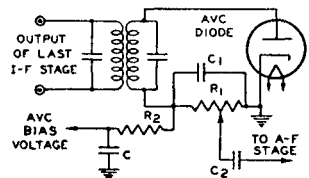
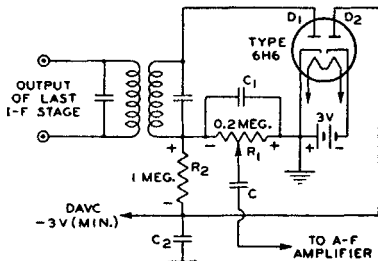
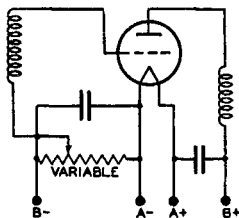
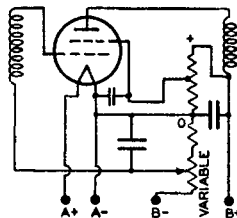

Fig. 41
Fig. 42
Fig. 55
Fig. 57
The avc circuit reduces the r-f and i-f gain for a strong signal usually by increasing the negative bias of the r-f, i-f, and frequency-mixer stages when the signal increases. A simple avc circuit is shown in Fig. 41. On each positive half-cycle of the signal voltage, when the diode plate is positive with respect to the cathode, the diode passes current. Because of the flow of diode current through R_1 , there is a voltage drop across R_1 which makes the left end of R_1 negative with respect to ground. This voltage drop across R_1 is applied, through the filter R_2 and C , as negative bias on the grids of the preceding stages. Then, when the signal strength at the antenna increases, the signal applied to the avc diode increases, the voltage drop across R_1 increases, the negative bias voltage applied to the r-f and i-f stages increases, and the gain of the r-f and i-f stages is decreased. Thus the increase in signal strength at the antenna does not produce as much increase in the output of the last i-f stage as it would produce without avc. When the signal strength at the antenna decreases from a previous steady value, the avc circuit acts, of course, in the reverse direction, applying less negative bias, permitting the r-f and i-f gain to increase, and thus reducing the decrease in the signal output of the last i-f stage. In this way, when the signal strength at the antenna changes, the avc circuit acts to prevent change in the output of the last i-f stage, and thus acts to prevent change in loudspeaker volume.
In the circuit shown in Fig. 41, a certain amount of avc negative bias is applied to the preceding stages on a weak signal. Since it may be desirable to maintain the receiver's r-f and i-f gain at the maximum possible value for a weak signal, avc circuits are designed in some cases to apply no avc bias until the signal strength exceeds a certain value. These avc circuits are known as delayed avc, or d-avc circuits. A d-avc circuit is shown in Fig. 42. In this circuit, the diode section D_1 of the 6H6 acts as detector and avc diode. R_1 is the diode load resistor and R_2 and C_2 are the avc filter. Because the cathode of diode D_2 is returned through a fixed supply of -3 volts to the cathode of D_1 , a d-c current flows through R_1 and R_2 in series with D_2 . The voltage drop caused by this current places the avc lead at approximately -3 volts (less the negligible drop through D_2). When the average amplitude of the rectified signal developed across R_1 does not exceed 3 volts, the avc lead remains at -3 volts. Hence, for signals not strong enough to develop 3 volts across R_1 , the bias applied to the controlled tubes stays constant at a value giving high sensitivity. However, when the average amplitude of rectified signal voltage across R_1 exceeds 3 volts, the plate of diode D_2 becomes more negative than the cathode of D_2 , and current flow in diode D_2 ceases. The potential of the avc lead is then controlled by the voltage developed across R_1 . Therefore, with further increase in signal strength, the avc circuit applies an increasing avc bias voltage to the controlled stages. In this way, the circuit regulates the receiver's gain for strong signals, but permits the gain to stay constant at a maximum value for weak signals.
It can be seen in Fig. 42 that a portion of the -3 volts delay voltage is applied to the plate of the detector diode D_1 , this portion being approximately equal to $R_1/(R_1 + R_2)$ times -3 volts. Hence, with the circuit constants as shown, the detector plate is made negative with respect to its cathode by approximately one-half volt. However, this voltage does not interfere with detection because it is not large enough to prevent current flow in the tube.
Grid-bias variation for the r-f and i-f amplifier stages is a convenient and frequently used method for controlling receiver volume. The variable voltage supplied to the grid may be obtained: (1) from a variable cathode resistor as shown in Figs. 55 and 56; (2) from a bleeder circuit by means of a potentiometer as shown in Fig. 57 or (3) from a bleeder circuit in which the bleeder current is varied by a tube used for automatic volume control. The latter circuit is shown in Fig. 41. In all cases it is important that the control be arranged so that at no time will the bias be less than the recommended grid-bias voltage for the particular tubes used. This requirement can be met by providing a fixed stop on the potentiometer, by connecting a fixed resistance in series with the variable resistance, or by connecting a fixed cathode resistance in series with the variable resistance used for regulation.